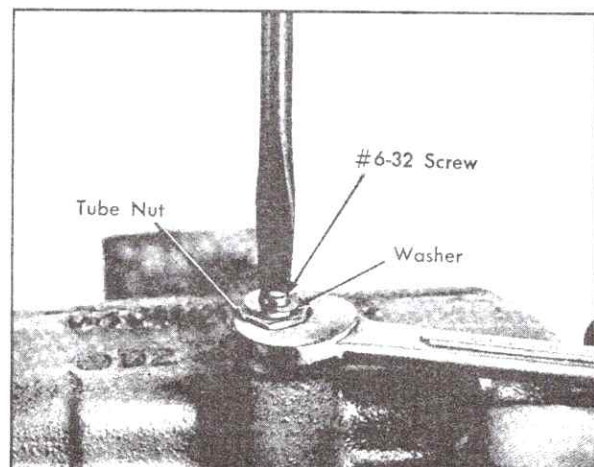

Fig. 5-21 Removing Tube Seat Inserts
9. Install a spare brake line tube nut in outlet hole, place a flat washer on a 1 inch #6-32 screw and thread screw into threaded hole in tube seat insert, Fig. 5-21.
10. To pull insert, hold screw from turning and turn tube nut out of outlet hole, Fig. 5-21. Remove both inserts in this manner and discard.